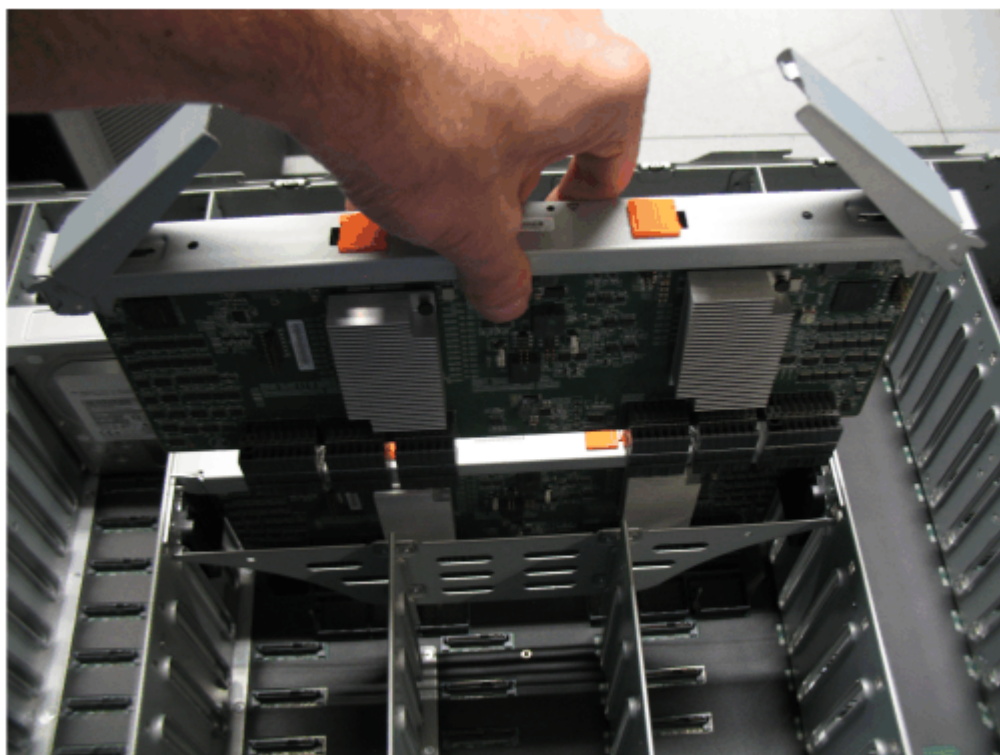

Figure 115. Remove the secondary expander module
4. Lift the secondary expander module carefully out of the enclosure, as shown in Figure 115 on page 99.